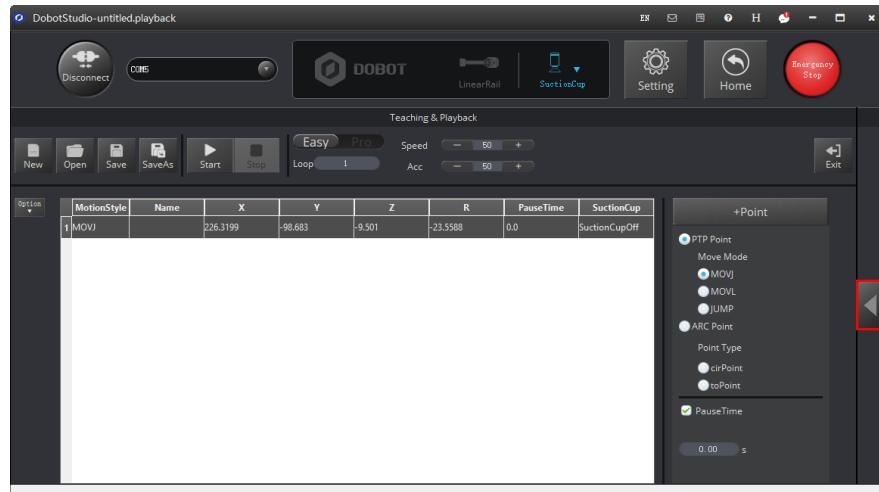

Figure 5.26 Display the Operation Panel
3. Click to display the **Operation Panel**, as shown in Figure 5.26.